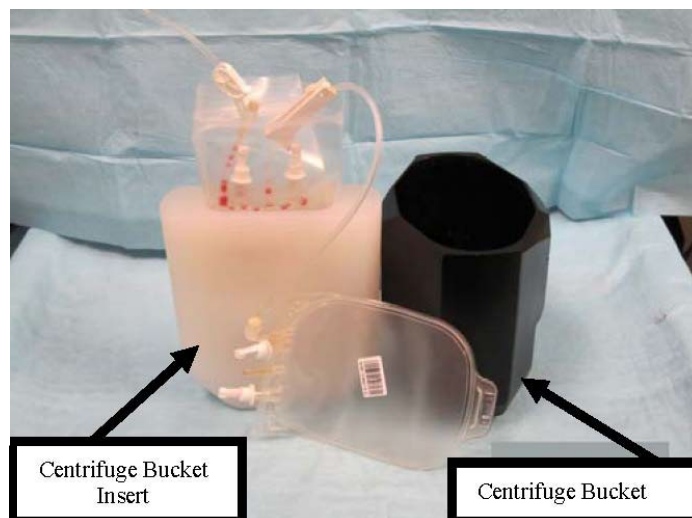

Figure 9
- Place the infusion bag in a 250 mL centrifuge adapter (see Figure 9).